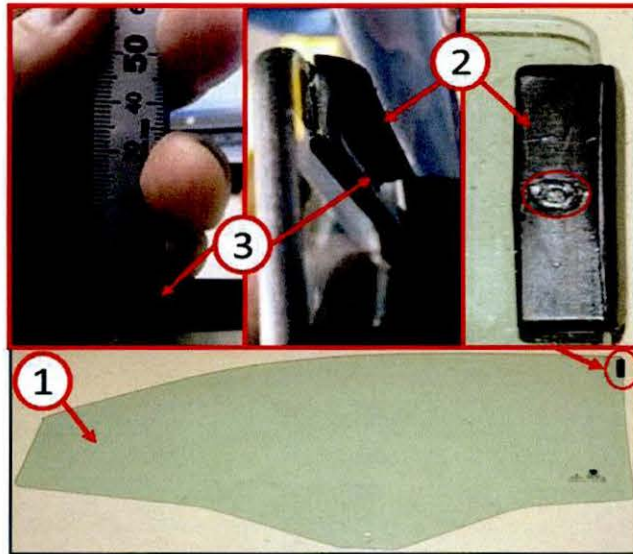

Fig. 2 Glass Guide Inspection
2. Inspect the suspect door glass plastic bracket/guide (2) for excessive material at the plastic/sonic weld (3) (Fig. 2).